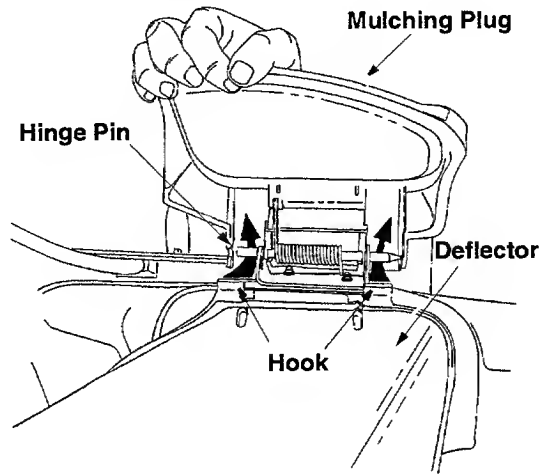

Figure 7
- Your mower has been shipped as a mulcher. To convert it to a side-discharge mower, lift the mulching plug. Slide the two hooks on the side-discharge deflector under the hinge pin on the mulching plug assembly. Lower the mulching plug. See Figure 7.